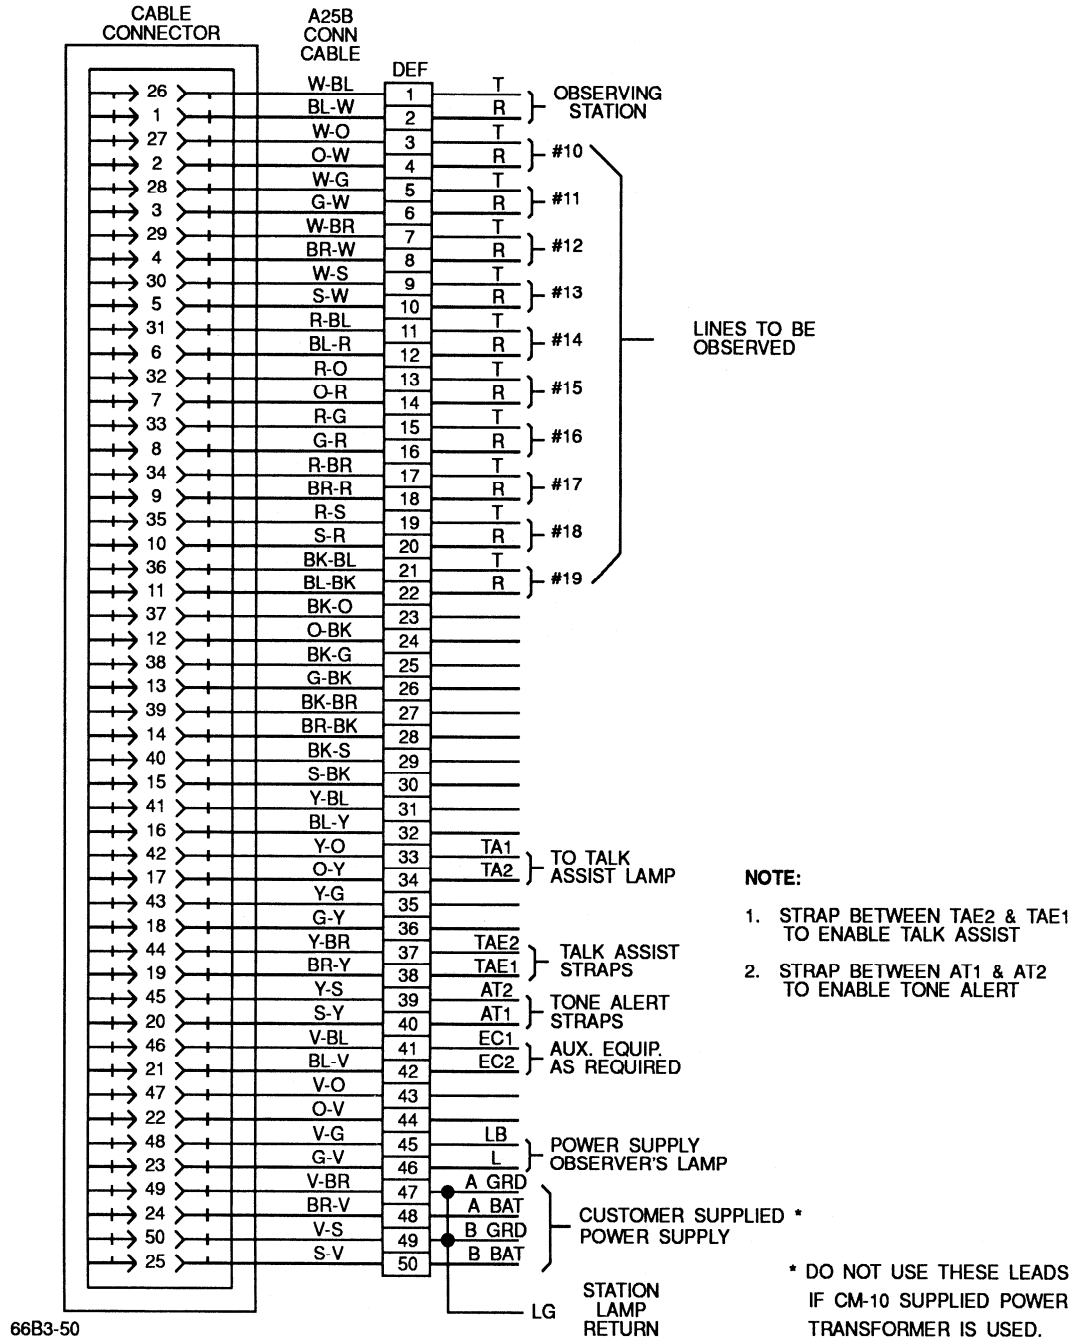

Fig. 5
4.4 **To enable tone alert and talk assist options**, refer to Figure 5 for strapping instructions.